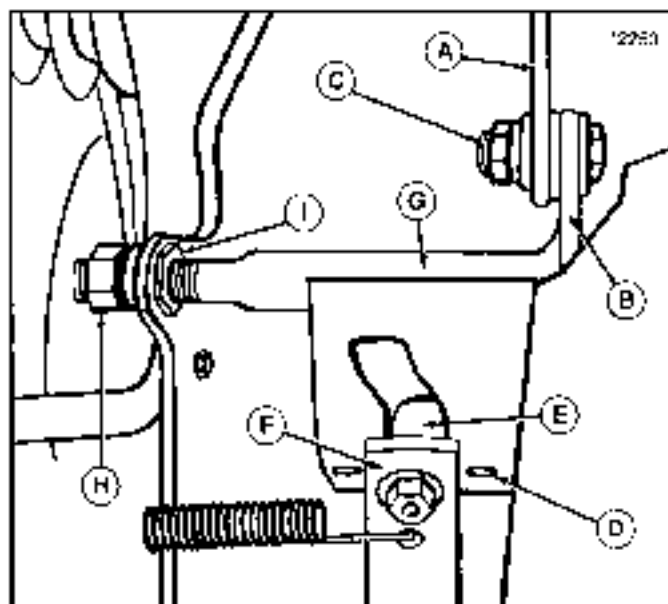

Figure 2B. Hydrostatic Neutral Adjustment
2. Raise the seat deck and check if the pump control arm roller (E, figure 2B) is exactly centered with the centering mark (D). If not, loosen bolt (C) and move the control cam (B) until centering mark (D) is centered on roller (E). Tighten the bolt (C).
4. Stop the engine, set parking brake, and raise seat deck. Loosen the jam nut (H) on end of cam pivot shaft (G). If tractor creep had been in reverse, turn adjusting nut (I) 1/8 to 1/4 turn clockwise when viewed from right side of tractor. If tractor creep had been forward, turn nut 1/8 to 1/4 turn counterclockwise. Lock jam nut, lower seat